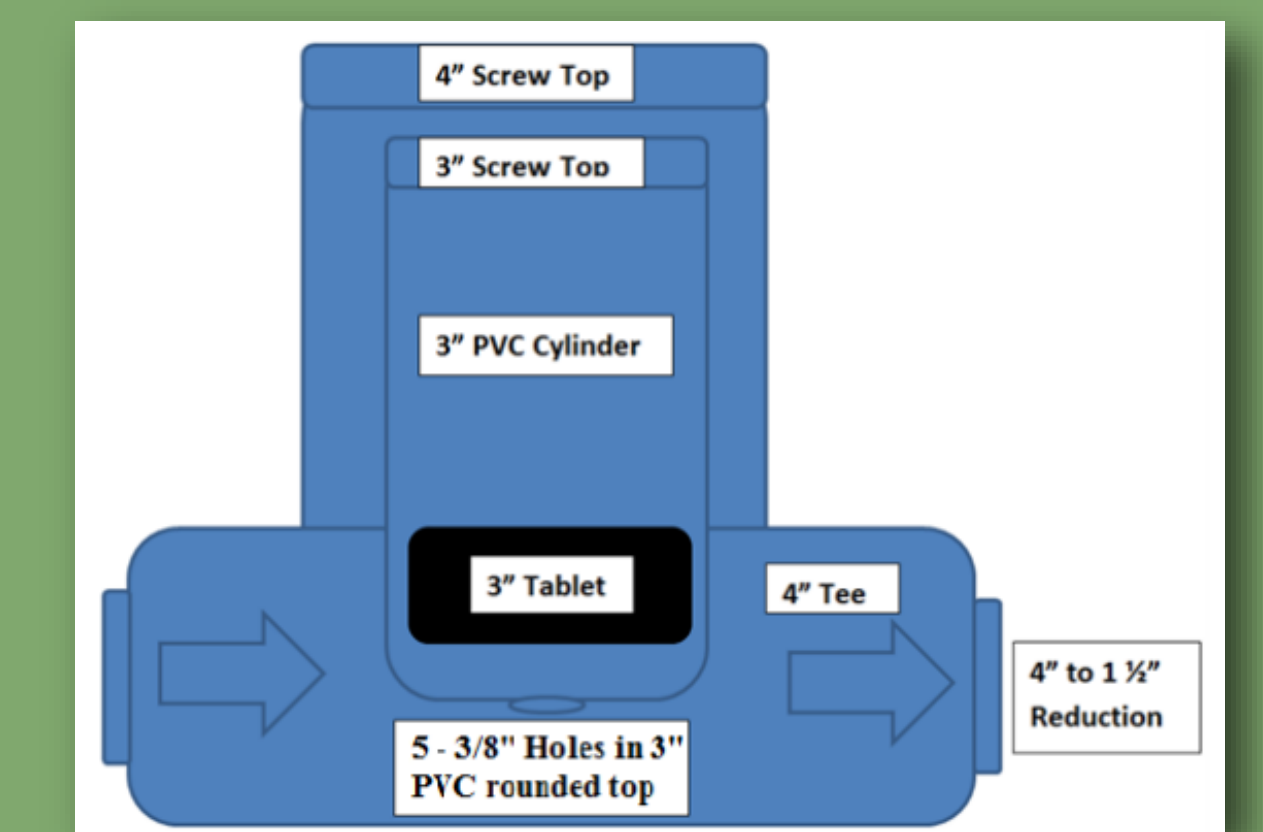

Figure 6. In-Line Chlorinator
- Constructed of 4" PVC (Figure 6)